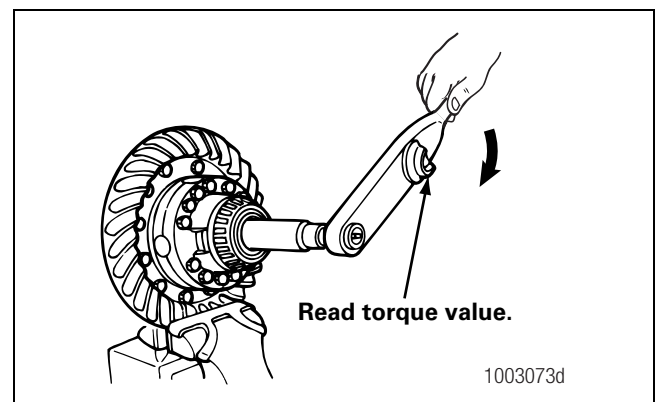

Figure 5.29
4. Place a torque wrench onto the nut of the tool and rotate the differential gears. As the differential gears rotate, read the value indicated on the torque wrench. Figure 5.29.